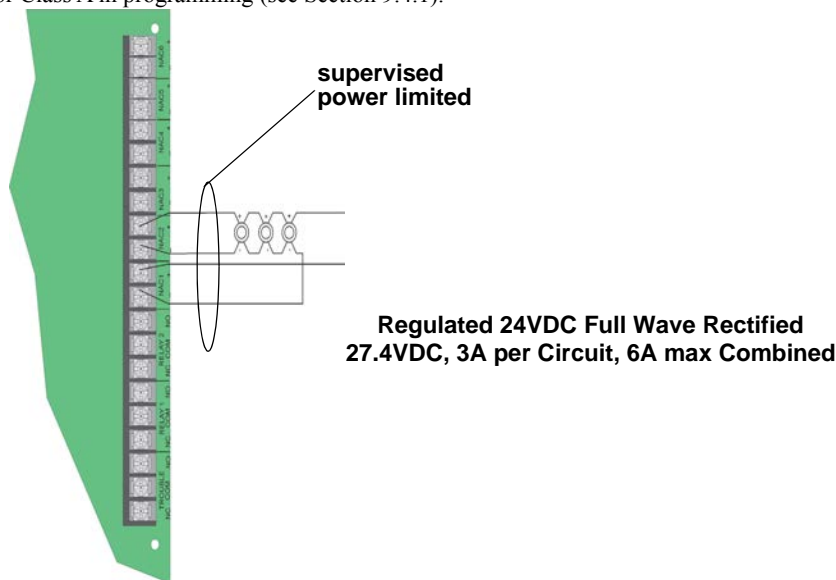

Figure 4.52 Class A Notification Appliance Circuit Configuration
1. Wire the Class A notification appliances as shown in Figure 4.52.
NOTE: In programming any point that uses multiple NAC circuits, the lowest circuit number is used to refer to the circuit pair. In this example, Figure 4.52 uses both NAC circuit 1 and 2, so in programming it would be referred to as point 1.